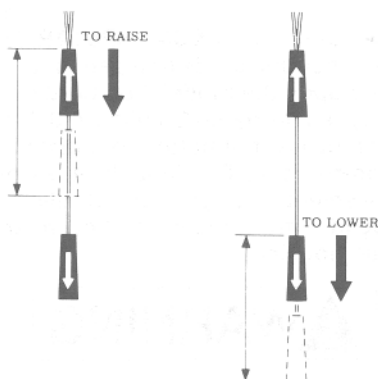
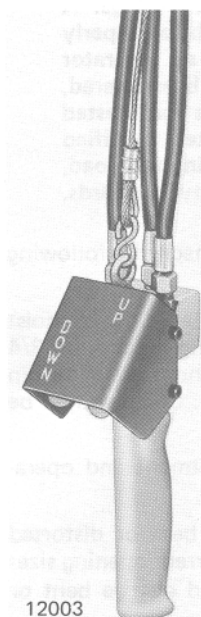

Figure 3-1. Pull Cord Control Handles.
Figure 3-2. Pendant Throttle Control Handle.
3-1. **GENERAL.** Operation of **CM AIRSTAR** Air Hoists is controlled by either pull cords or a pendant throttle control, depending upon the model. Pull Cord Control models have pull type control cords (Figure 3-1) suspended from a rocker type lever at bottom of hoist that actuates the throttle control valve. Pendant Throttle Control models have a convenient lever type control valve handle (Figure 3-2) suspended from the control cylinders on sides of control head housing.
(1) Depress throttle valve lever marked "UP" to raise load. See Figure 3-2.
(2) Depress throttle valve lever marked "DOWN" to lower load.
(3) Release lever being depressed to stop either lifting or lowering.
(4) Speed of lifting and lowering is varied by the position of the throttle valve lever being depressed.